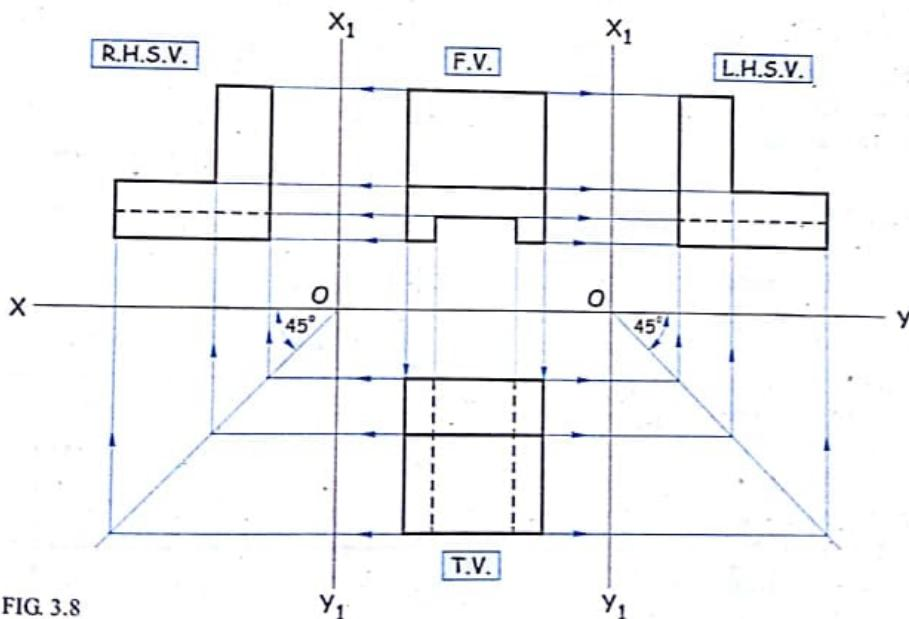

FIG. 3.8
**Conclusion (Refer figure 3.8.)**